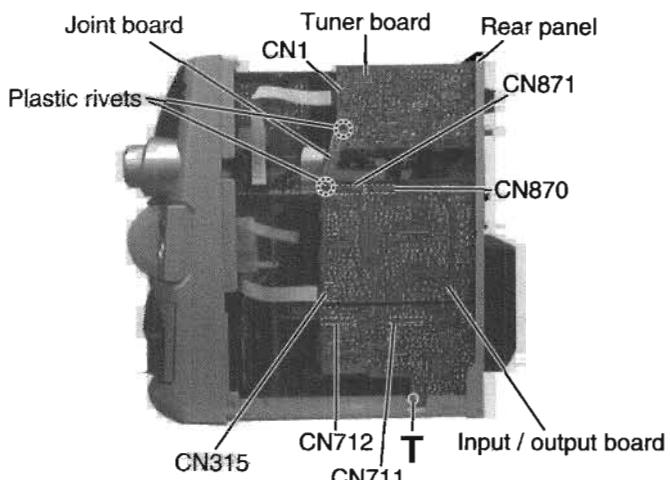

Fig.21
(See Fig.21 and 22)
- Remove the tuner board in case of necessity (Refer to Fig.21 and 22).
1. Remove the input / output board (Refer to Fig.21 and 22).